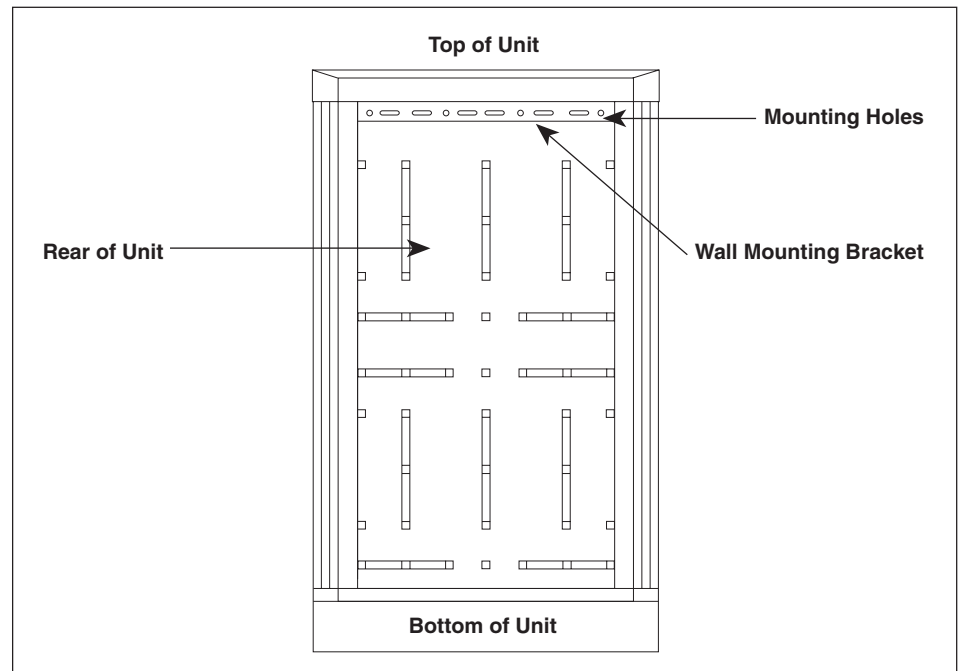

Fig. 2
5. Remove the upper drawers or shelves to expose the rear wall bracket (Fig. 2).